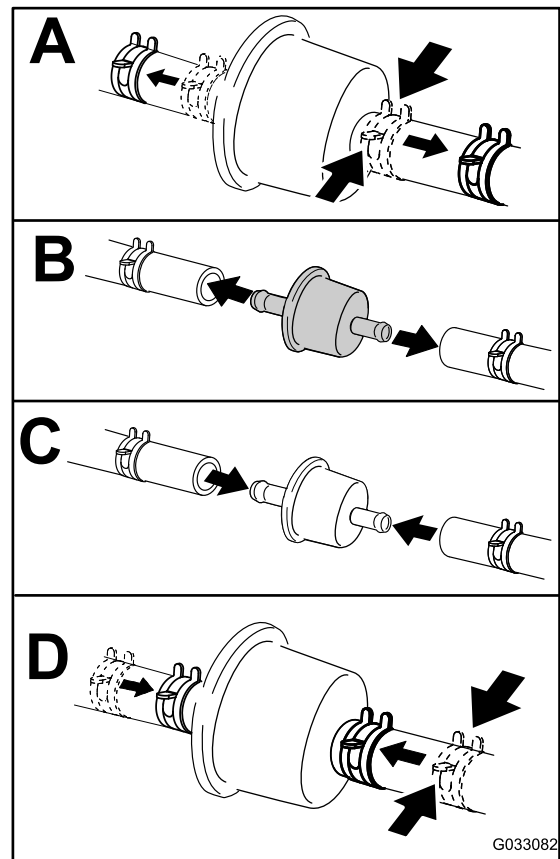

Figure 52
5. Replace the fuel filter (Figure 52).
5. Disconnect the positive (red) cable from the battery post (Figure 52).